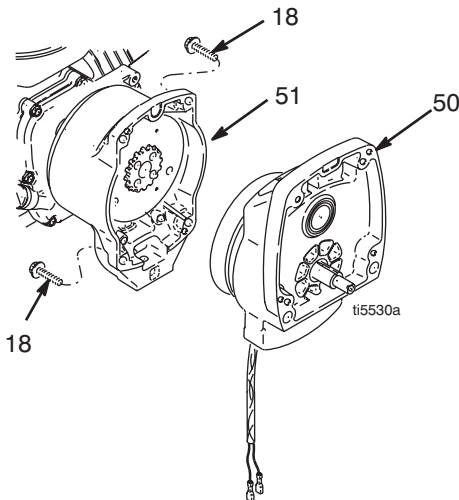
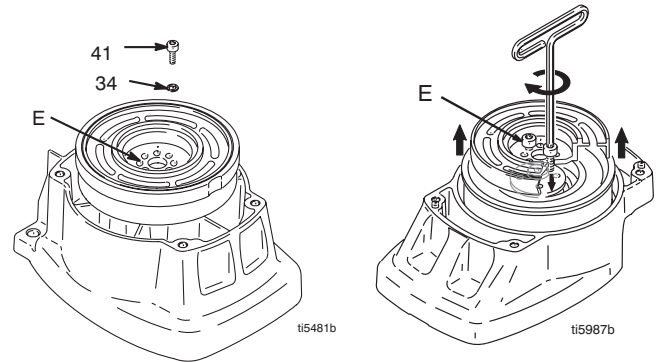

FIG. 3
FIG. 4
- a. Remove two screws (91) and swing down cover (77).
4. FIG. 3. Remove four screws (18) and pinion assembly (50).
5. FIG. 4. Place pinion assembly (50) on bench with rotor side up.
6. Remove four screws (41) and lock washers (34). Install two screws in threaded holes (E) in rotor. Alternately tighten screws until rotor comes off.
9. FIG. 4. Place pinion assembly on bench with rotor side up.
10. Apply locktite to screws. Install four screws (41) and lock washers (34). Alternately torque screws to 125 in-lb until rotor is secure. Use threaded holes to hold rotor.
11. FIG. 3. Install pinion assembly (50) with four screws (18).
12. FIG. 4. Connect clutch (A) and clutch (B) connectors to control board.